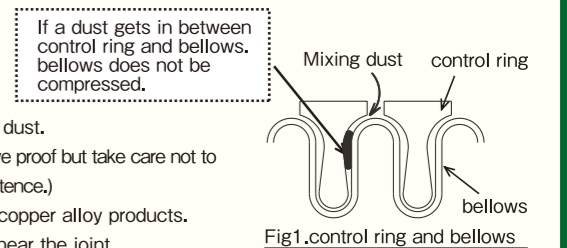

Fig1. control ring and bellows
- ① On the flat place at ventilative place.
- ② Do not put the expansion joint on floor directly. Be sure to use a tie.
- ③ Wrap the opening parts of expansion joint by polyethylene sheets not to mix dust.
- ④ Take care not to attach the corrosive matters. (Stainless steel is superior to corrosive proof but take care not to attach the chloride because it is possible to corrode stainless steel by chloride existence.)
- ⑤ The place where the expansion joint does not touch the copper products or copper alloy products.
- ⑥ The place where there is no operation of welding, gouging and gas cutting near the joint.
- ⑦ In case of bellows with control ring, if a dust gets in between control ring and bellows, it might prevent normal compression. Wrap the outer surface of bellows to prevent mixing dust. (Refer to Fig.1)